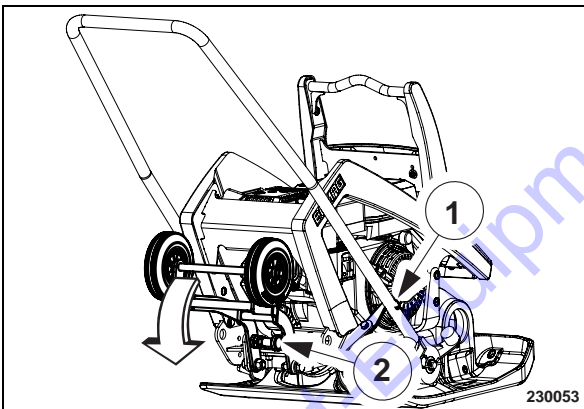

Fig. 37
- Lock the steering handle with the the hook (Fig. 37).
- Unlock the safety bolt (2) and fold down the transport wheels.